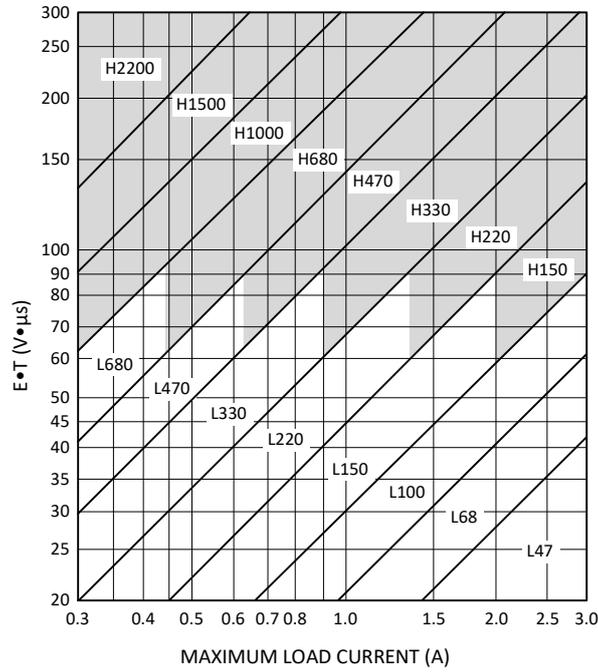

Figure 25. LM2576HV-ADJ
2) Use the  $E \times T$  value from the previous equation and match it with the  $E \times T$  number on the vertical axis of the Inductor value selection guide shown in Figure 25.